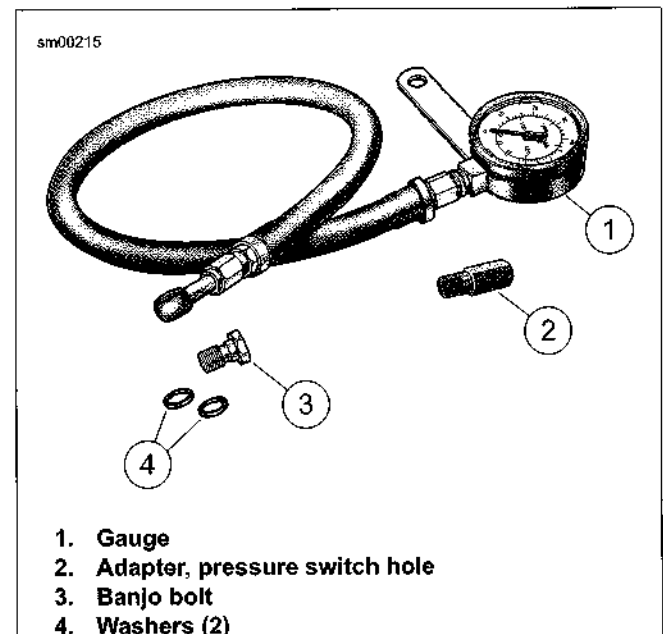

Figure 3-3. Oil Pressure Test Gauge Set
3. See Figure 3-3. Install OIL PRESSURE GAUGE ADAPTER (Part No. HD-96925-58) (2) in oil pressure indicator lamp switch mounting hole. Tighten adapter snugly. DO NOT OVER-TIGHTEN.